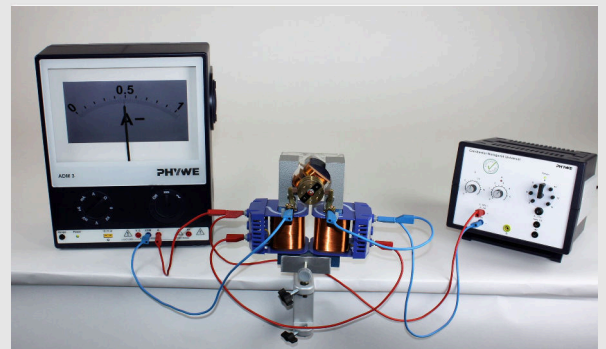

Fig. 2
- Complete the structure according to Fig. 2 and Fig. 3.